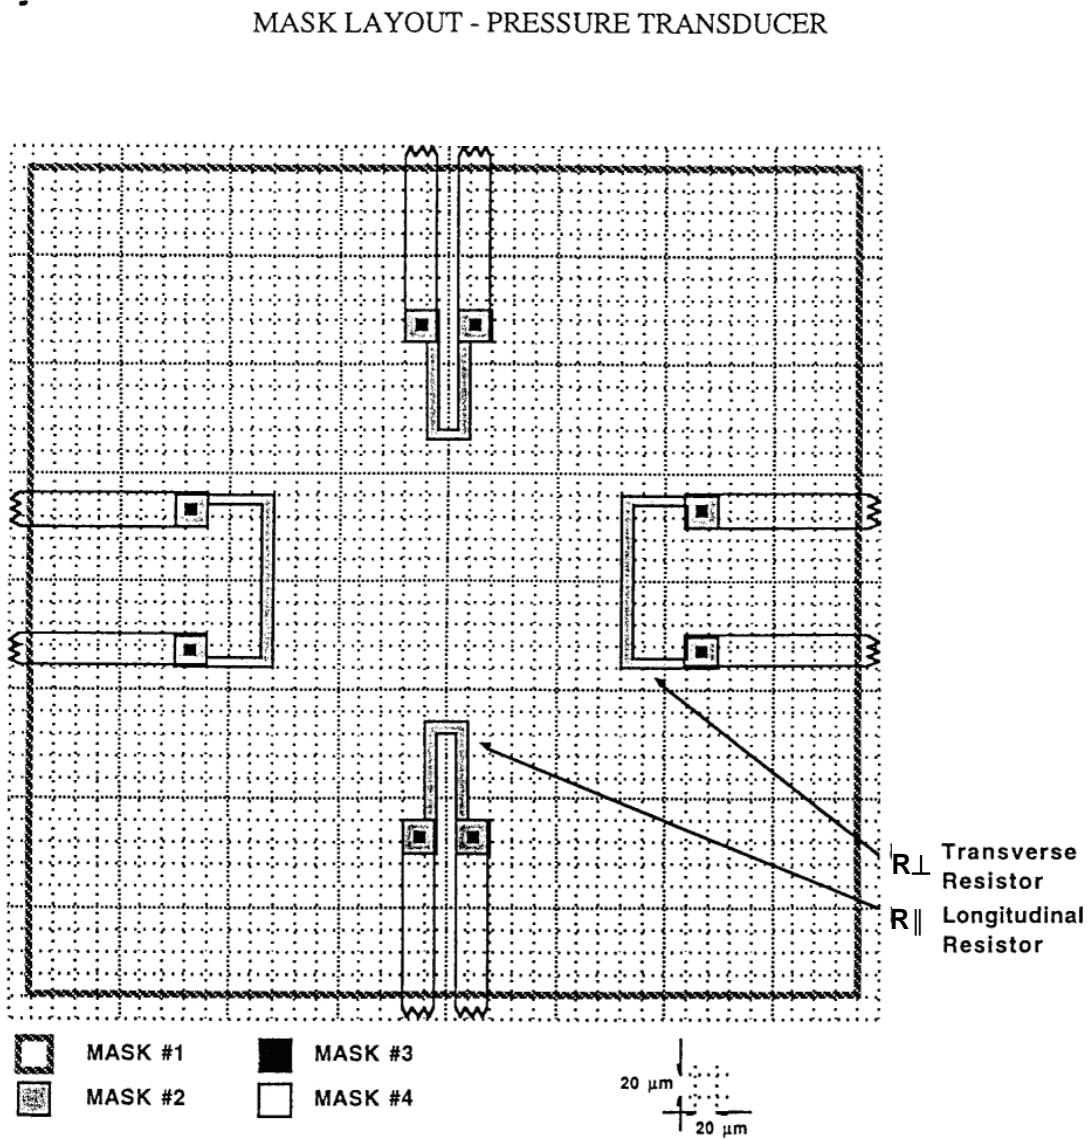

Figure 2: Layout of the pressure sensor using a 4 masks fabrication process.
c) On Figure 2 draw the edges of the silicon membrane.
d) Complete the section below on the characteristics of the pressure sensor fabricated using the mask layout presented in Figure 2. (thickness of piezoresistors: $1 \text{ }\mu\text{m}$, $\rho_{\text{Si}} = 0.001 \text{ }\Omega\text{-cm}$).